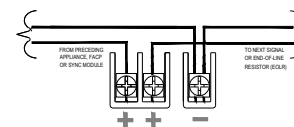
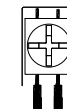

Figure 2: Strobe NAC Wiring.
Figure 3: Wire Connection
• Break all in-out wire runs on supervised circuits to ensure integrity of circuit supervision as shown in Figure 3. The polarity shown in Figure 2, the wiring diagram, is for the operation of the appliances. The polarity is reversed by the FACP during supervision.
3. **Pre-Wire:** Connect field wires to terminals on mounting plate (Reference Figure 2 and 3). Use care and proper techniques to position the field wires in the backbox so that they use minimum space and produce minimum stress on the product. This is especially important for stiff, heavy gauge wires and wires with thick insulation or sheathing. When terminating field wires, do not use more lead length than required. Excess lead length could result in insufficient wiring space for the signaling appliance.